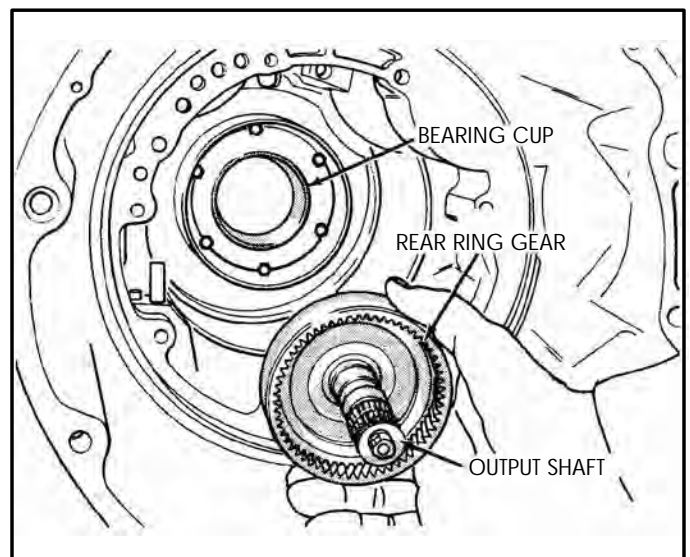

Figure 135
19. Remove the output shaft and the rear ring gear from opposite side of transaxle case, as shown in Figure 135.